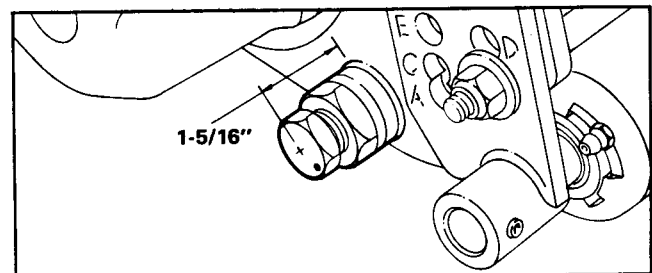

Figure 31
11. Install jam nut on eccentric pivot bolt. Put plastic washer between left side of bedbar and side plate. Thread pivot bolt into side frame until distance from top of pivot bolt to side plate is 1-5/16 in. with identification dot toward the rear (Fig. 31). Do not tighten jam nut.